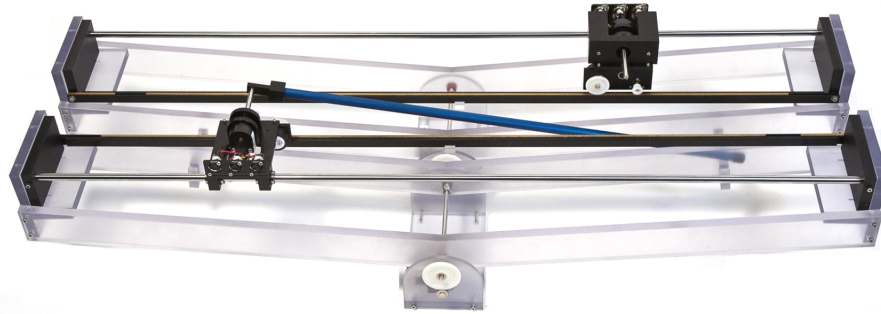

Figure 4.1: SEEPEN default configuration
Figure 4.1 illustrates the mounting and assembly, in the default configuration, of the Seesaw Pendulum system.
1. As depicted Figure 4.1, do not place the additional weight on the "pendulum" cart, but install additional weight on the "mass" cart. See reference [?] for more details.